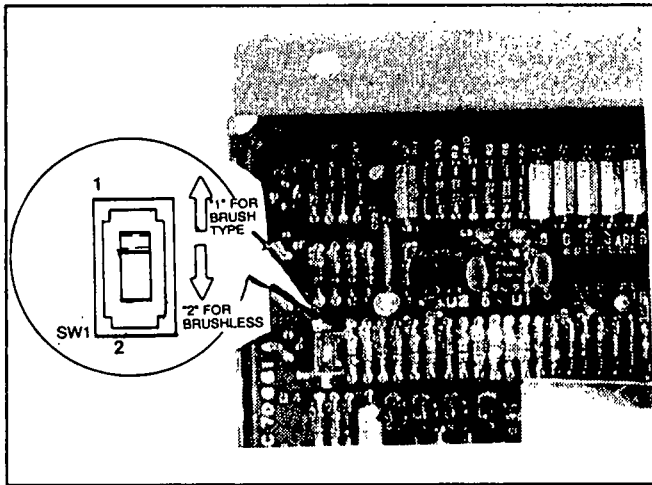

Figure 8. Switch SW1 on Regulator Circuit Board
1. On the new replacement regulator, locate the miniature switch on the regulator circuit board identified as "SW1". Set the switch to "1" if installing it on a direct excited (brush type) unit; set it to "2" for brushless generators. See Figure 8.